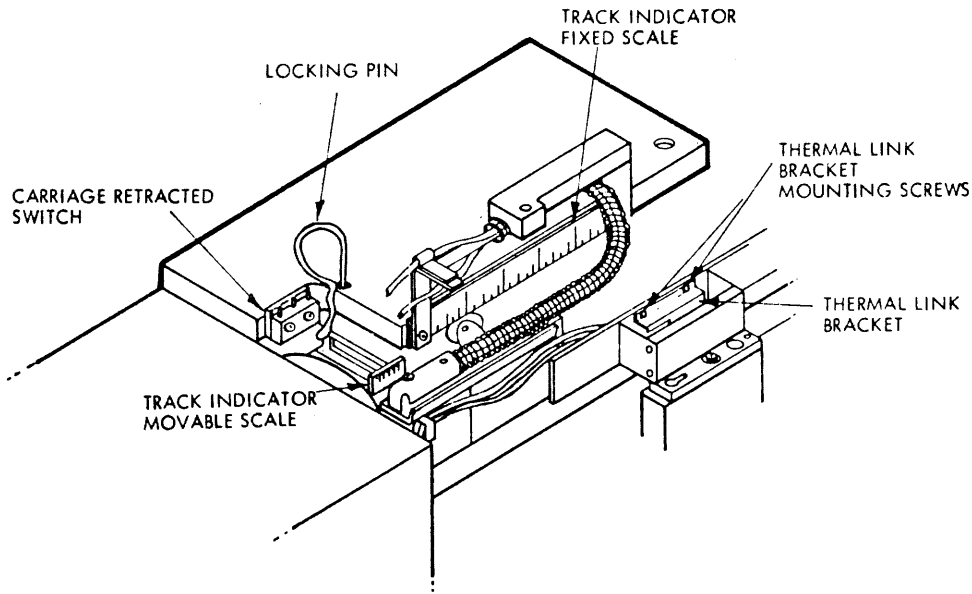

Figure 3-28. Track Indicator
6. Check that zero marks on fixed and movable sections of track indicators (figure 3-28) are aligned.